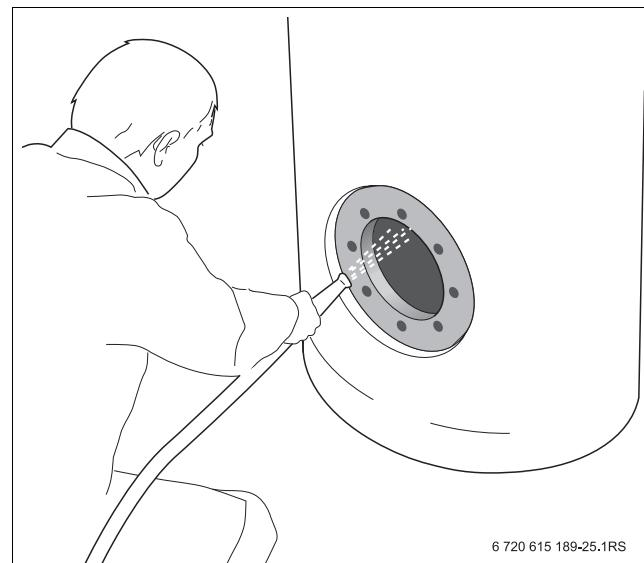

Fig. 20 Hosing down the interior of the DHW tank
- Hose down the inside of the DHW tank with a "high pressure" (approx. 58 – 72.5 psi (4 – 5 bar) gauge pressure) stream of cold water (→ Fig. 20, page 16).